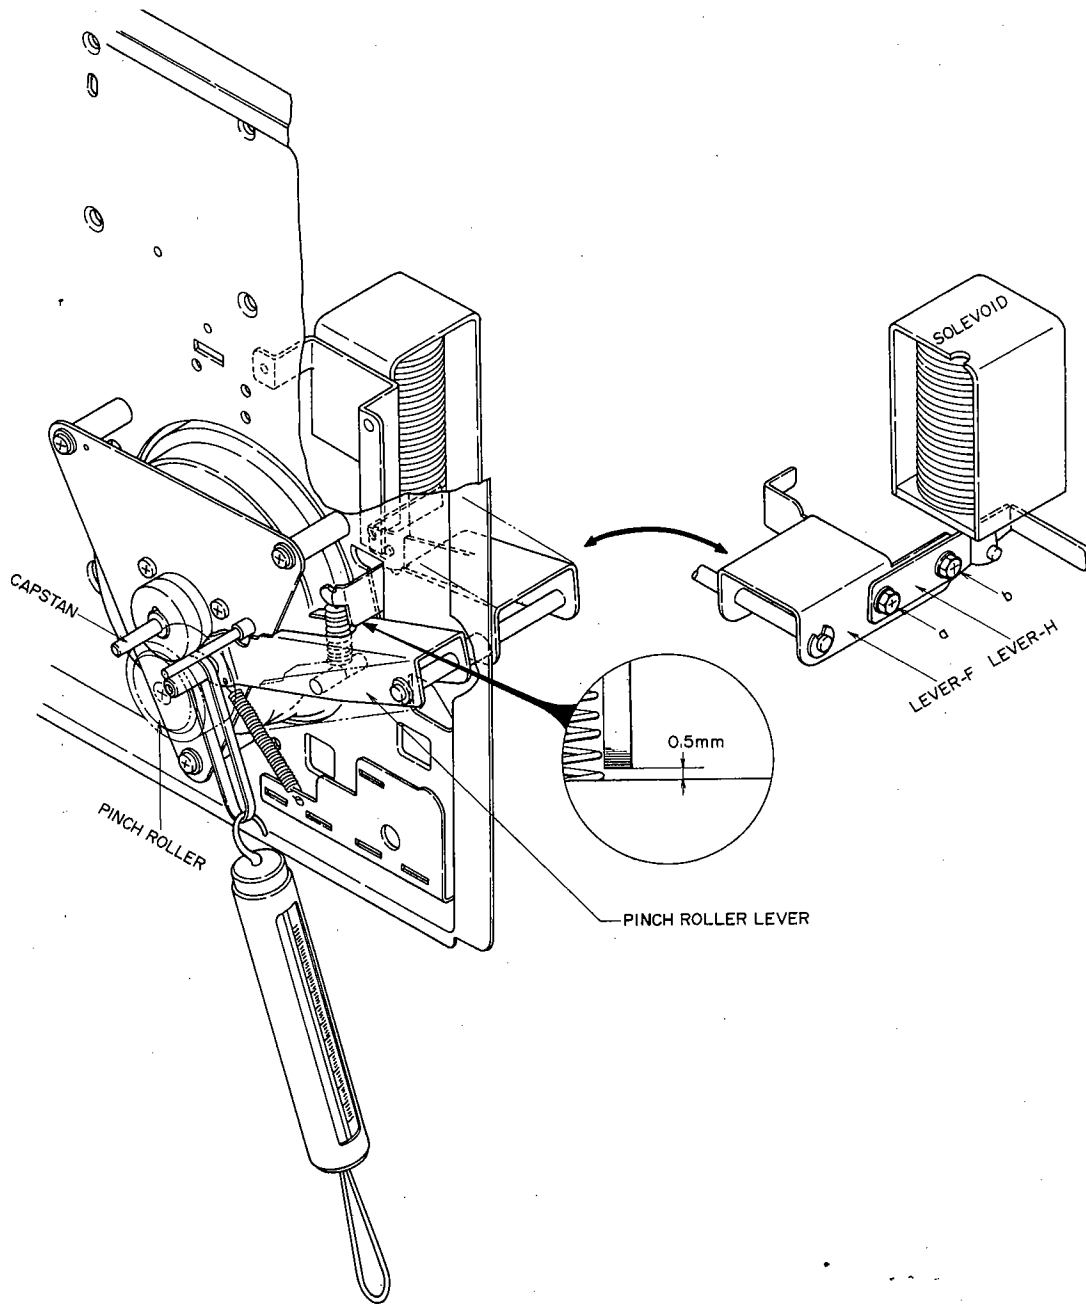

Fig. 3
- 2) As shown in Fig. 3, using a Tension Gauge, during pinch roller revolutions, check to see whether the scale on the tension gauge stops at 1.7 K grams (± 200 grams).